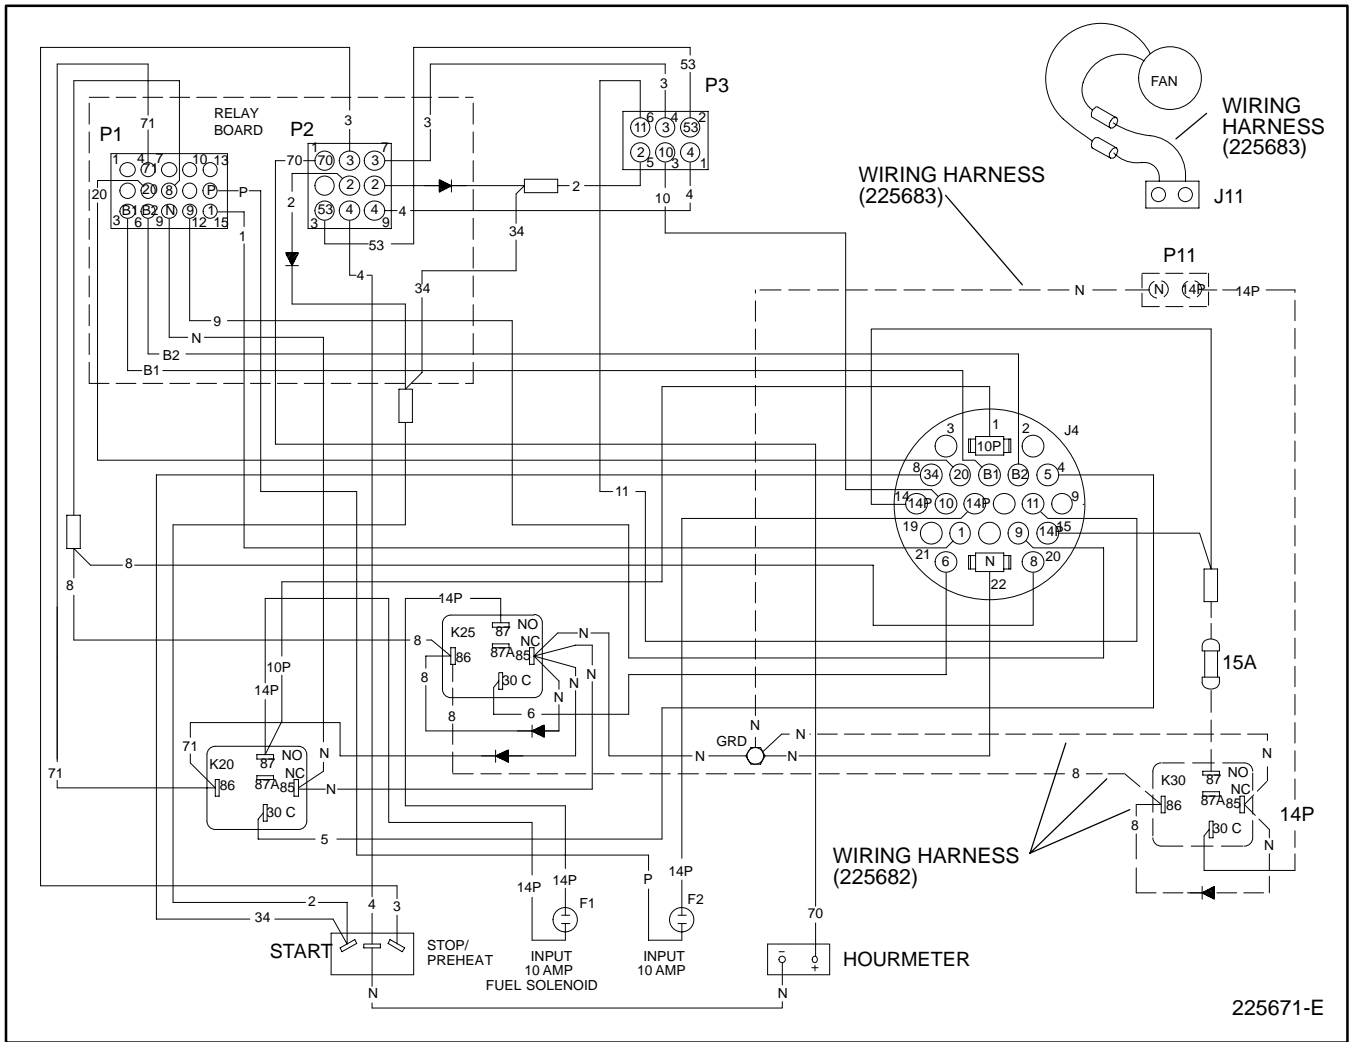

Figure 4. Wiring Diagram
4. Install wiring harness (225683). Install 2-pin connector (P11) in opening at rear of controller. Connect lead 14P to K30 relay, terminal 30. Attach lead N to controller ground with ground screw (see Figure 4).